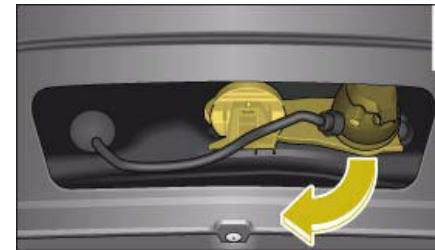

Fig. 196 Area below rear bumper: Folding down the socket
- Fold the socket unit all the way out in the direction of the arrow ⇒ fig. 196.